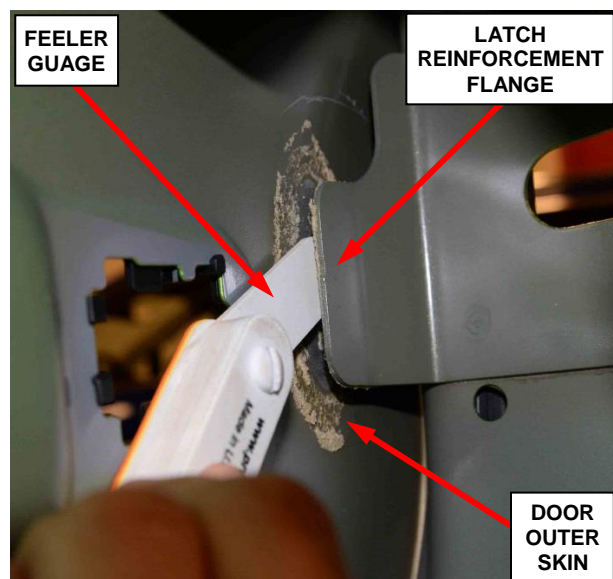

Figure 27 – Measure Between Latch Reinforcement Flange and Door Skin
45. Using feeler gauges, measure the gap between the latch reinforcement flange and door skin. Measurement target is between 1.5mm and 2.5mm (Figure 27).
48. Using feeler gauges, measure the gap between the latch reinforcement flange and door skin as described in **Step 45** (Figure 27). Measurement target is between 1.5mm and 2.5mm. Repeat **Step 47** if necessary until the target measurement is achieved.